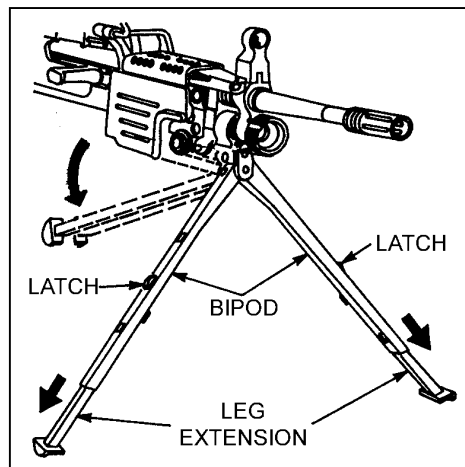

Figure 1-35. Lowering of the bipod.
a. To lower the bipod legs, hold the legs together and pull down and away from the handguard. Release the legs so that they lock in the vertical position. To extend the bipod legs, grasp the foot of each leg and pull down (Figure 1-35, page 1-34).